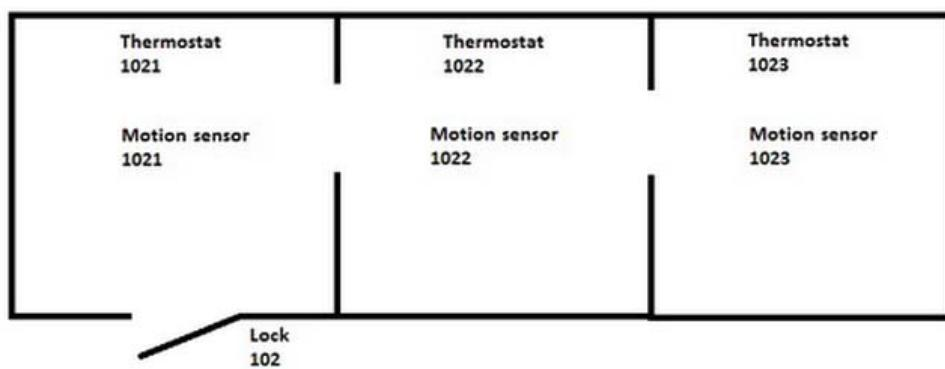
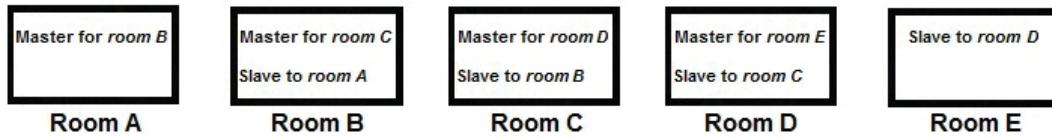

Figure C21
Figure C23
One possible suite configuration is to have only one door to the entire suite. In the example shown in *Figure C21*, the suite contains the rooms 1021, 1022 and 1023; each room has one thermostat and one motion sensor. Room 1021 is the *master room* for room 1022 and room 1022 is the *master room* for room 1023. The lock 102 is connected to the thermostat in the first room, i.e. to *thermostat 1021*, when the online network is set up. **Note:** For more information about the suite functionality, see section More about how the suite works.
In the configuration with only one door to the entire suite, the thermostats are initialized in a chain. The principle is described in *Figure C23*; room A in the room chain is master for room B, which is in turn master for room C etc. This and this section describe the example from Figure C21, i.e. three rooms in a chain.
3. All thermostats except for the last one in the chain (see Figure C23 for a description of the principle) have been initialized with suite settings according to this section.